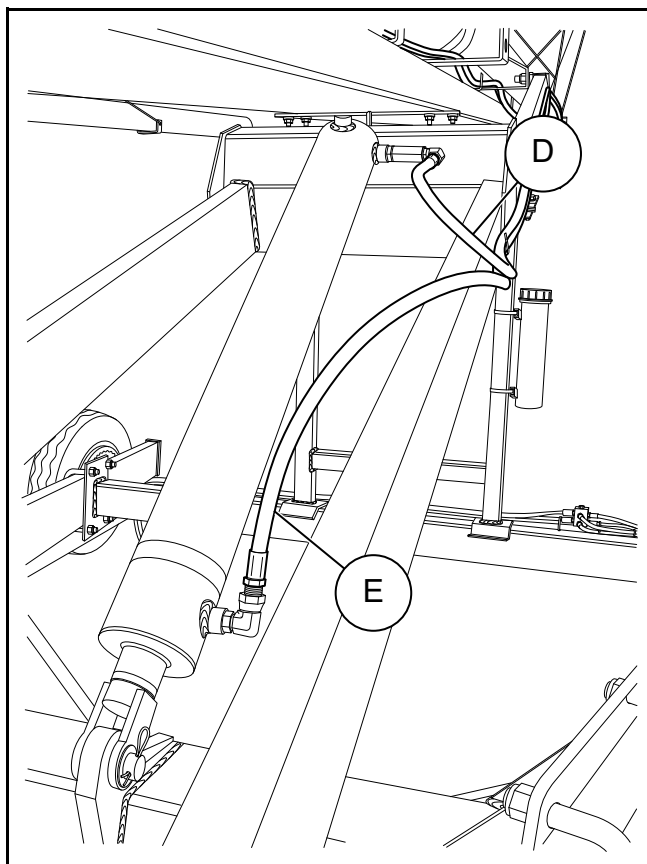

Figure 3.19 Conveyor Hydraulic Cylinder Hoses
6. Attach hoses D and E to the lift cylinder (see Figure 3.19).